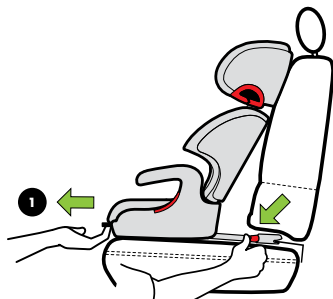

Figure 22
Pull on the Recline Handle located on the front of the booster Seat Base and slide this booster seat towards you exposing the LATCH Connectors ❶, as shown in **Figure 22**.